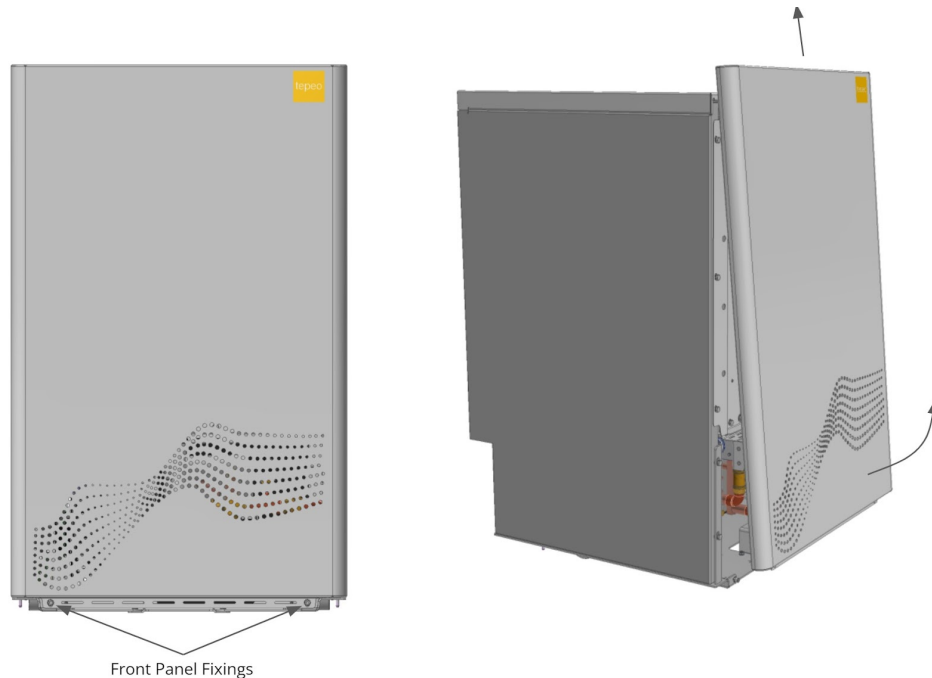

Figure 12: Front dress panel removal
- The front cover can now be lifted off and removed, in an up-and-away movement as shown in **Figure 12**